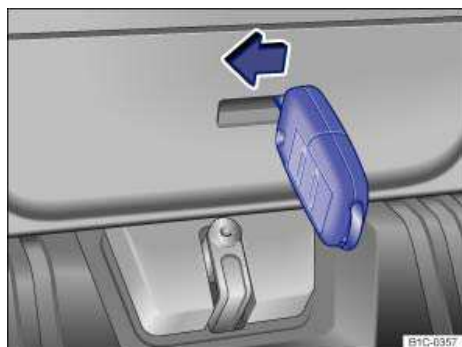

Fig. 155 View from luggage compartment: Opening the rear hatch.
- Insert the key into the slot on the rear hatch ⇒ fig. 155.
- Press the release lever in the direction of the arrow ⇒ fig. 155 to unlock the rear hatch and press upward at the same time until it opens.